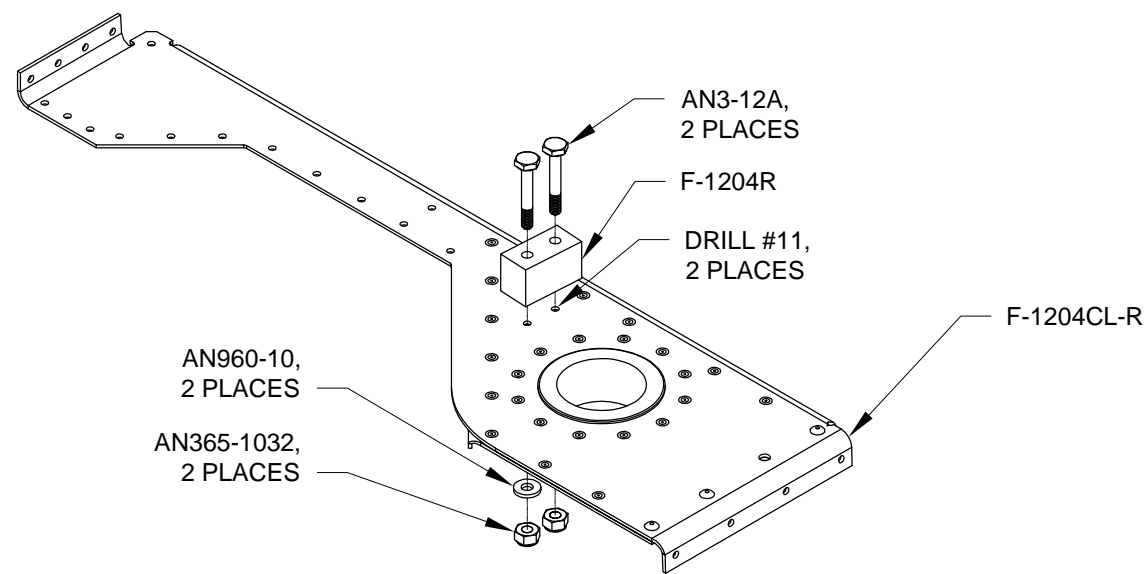

FIGURE 2: INSTALLING THE RETAINER BLOCK
Step 2: Final-Drill the two bolt holes in the F-1204CL-R Fwd Bulkhead Side Assembly and install the F-1204R Retainer Block as shown in Figure 2.